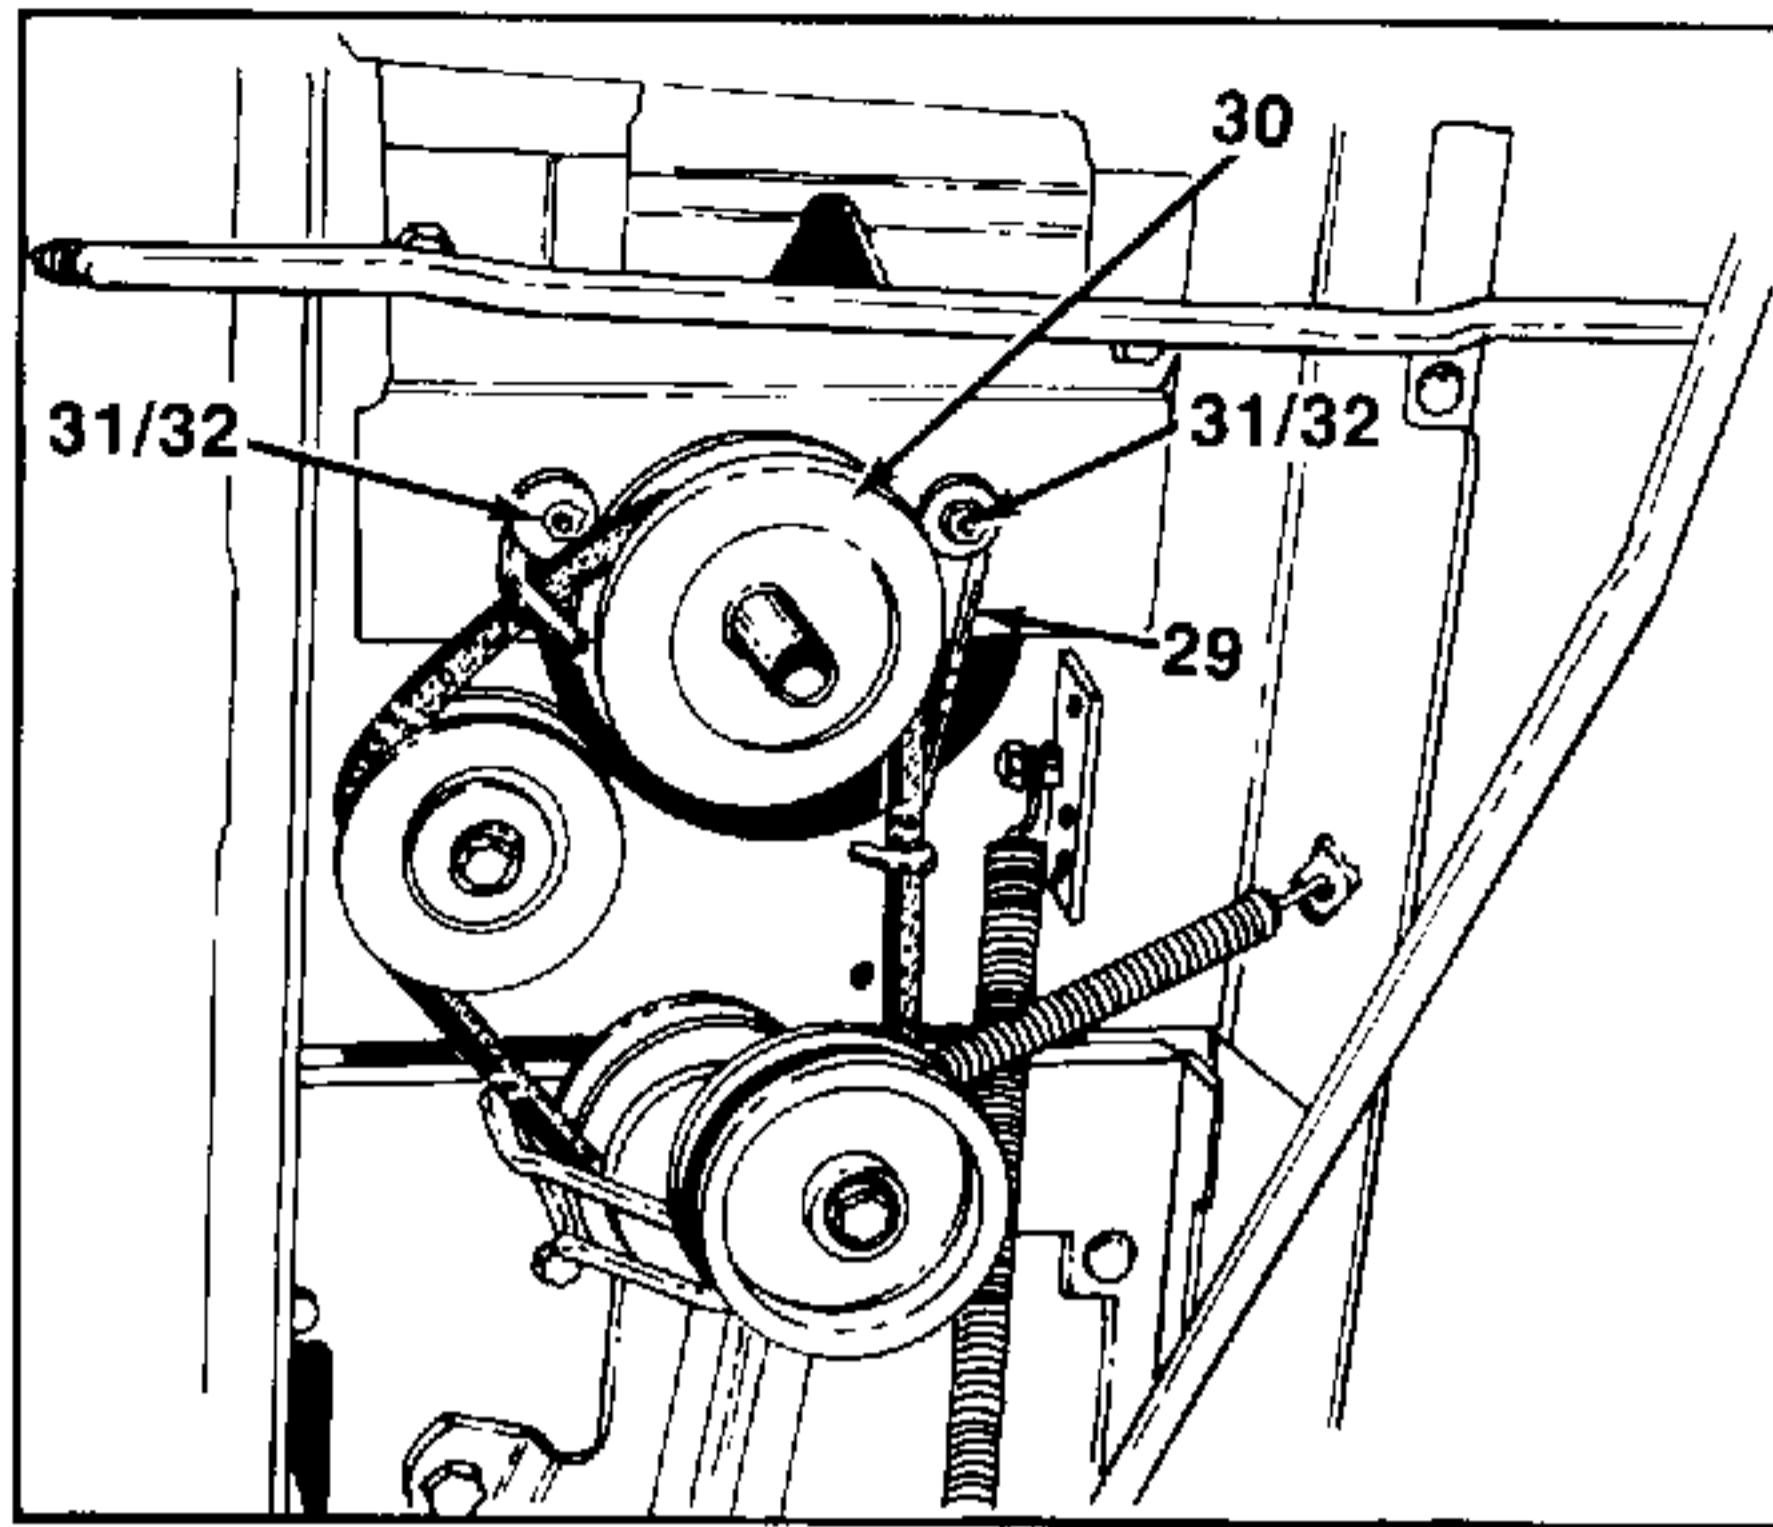

FIGURE 16.
14. Remove the engine pulley belt guard (Ref. 29) by removing two hex nuts (Ref. 31) and flat washers (Ref. 32). See figure 16.